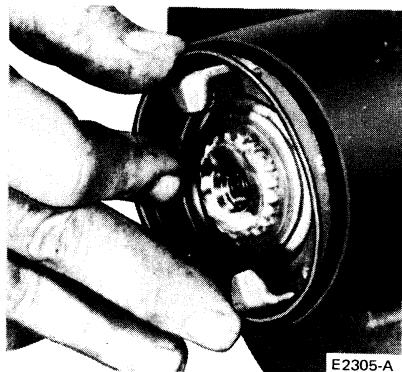

FIG. 13 Installing Internal Snap Ring
7. Install the internal snap ring. Be sure snap ring is fully seated in the snap ring groove of the hub (Fig. 13).